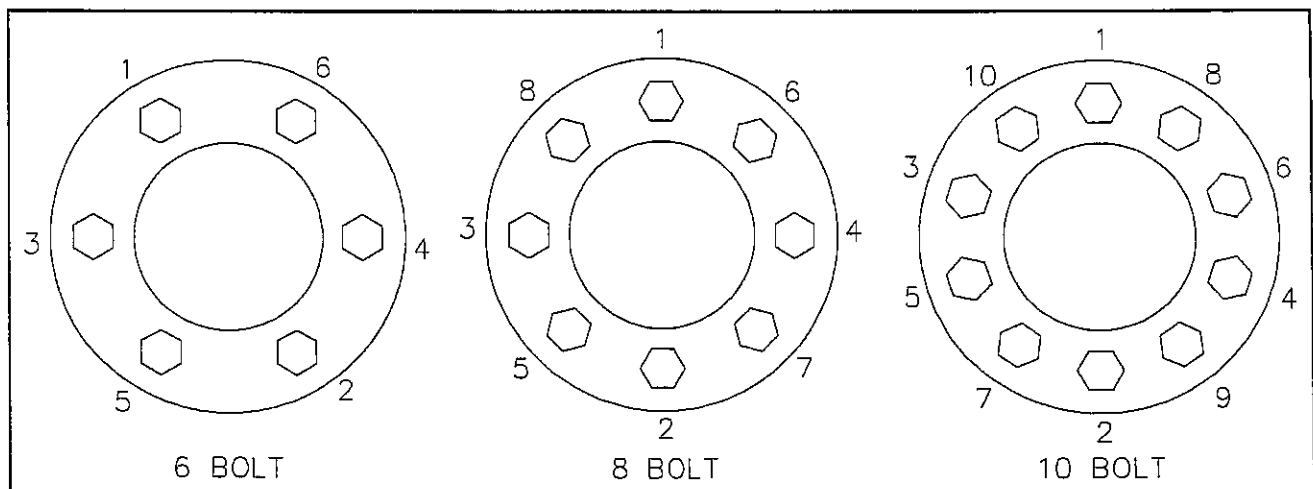

Figure 4-20 Stud Tightening Sequence
c. Install the inner capnuts on the studs and tighten to fifty foot-pounds using the sequence illustrated in Figure 4-20. Make certain that the left-handed threads are installed on the driver side of the vehicle and the right-handed threads are installed on the curbside of the vehicle.
d. Tighten the inner capnuts to full torque of 450 to 500 foot-pounds using the sequence shown in Figure 4-20.
f. Install the outer capnuts and tighten to 50 foot-pounds using the sequence in Figure 4-20. Then tighten to full torque of 450 to 500 foot-pounds using the same sequence.